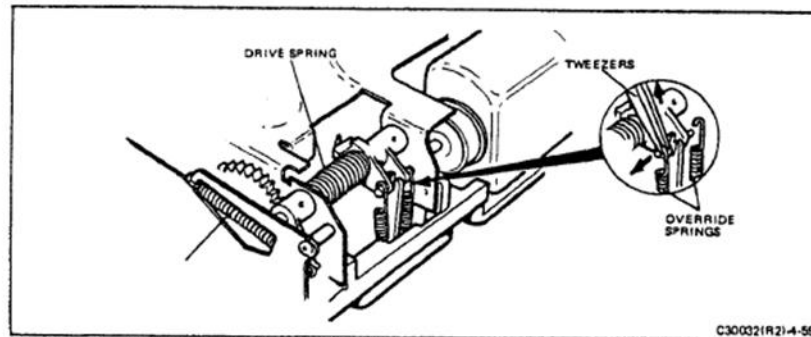

FIGURE 4-59 REMOVING OVERRIDE SPRINGS
4. Referring to Figure 4-59, remove the two override springs using tweezers.